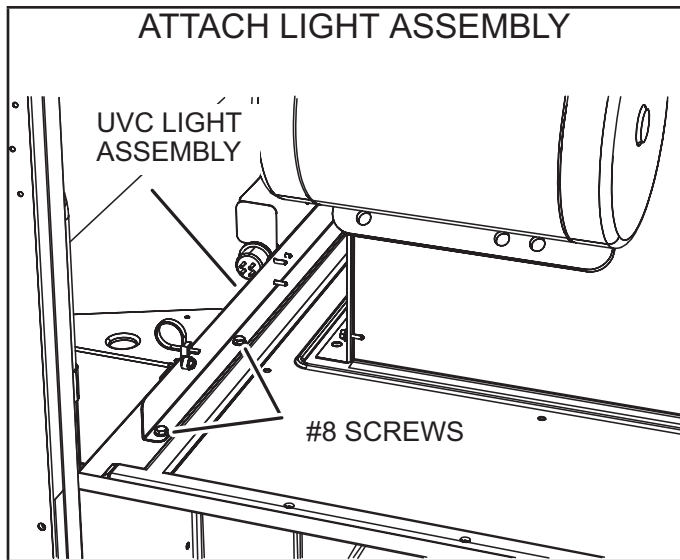

FIGURE 41
- 8 - Carefully place the UVC assembly on the blower deck. Line up the mounting holes on the UVC assembly with the mounting holes on the blower deck. See FIGURE 41. Use the #10 screws provided to attach the UVC assembly in place.